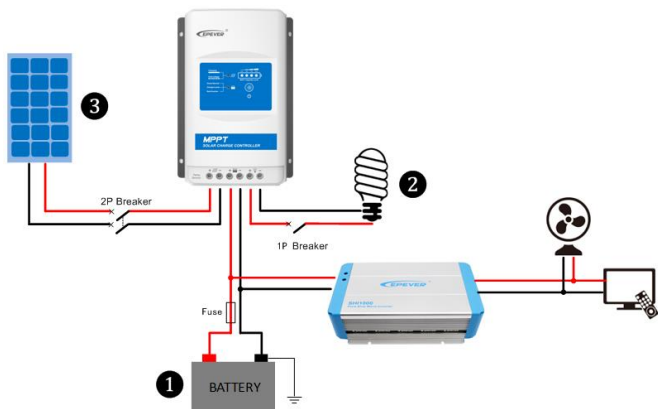

Figure 2-2 Schematic of wiring diagram
Step 2: Connect the system in the order of ❶ battery → ❷ load → ❸ PV array in accordance with Figure 2-2, "Schematic Wiring Diagram" and disconnect the system in the reverse order ❸ ❷ ❶.